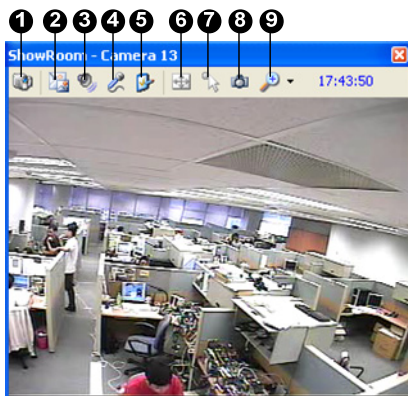

Figure 4-12
1. On the live view, select the **Change Size** button (No. 2, Figure 4-12) and select **Wide Angle Settings**. The Wide Angle Dewarping Setting dialog box appears.
3. To apply the configuration, select the **Change Size** button (No. 2, Figure 4-12) and select **Wide Angle Lens Dewarping**.